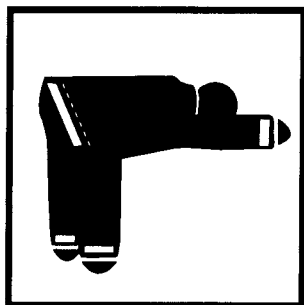

FIG. 9B
- B. NFPA 1500 Standard Position B (**Fig. 9B**). While standing with your hands together and reaching overhead as far as possible, bend forward to a 90° angle, to the left or right and backward. The inner liner of the coat must overlap the top of the trousers by no less than 2 inches (5 cm).